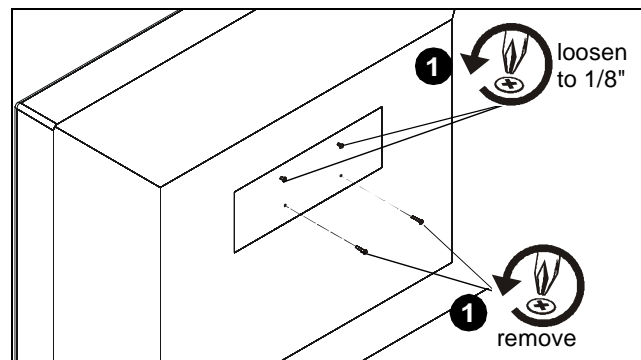

Figure 9
1. Loosen the top two mounting screws on the back of the display to protrude 1/8" and remove the bottom two screws. (See Figure 9)